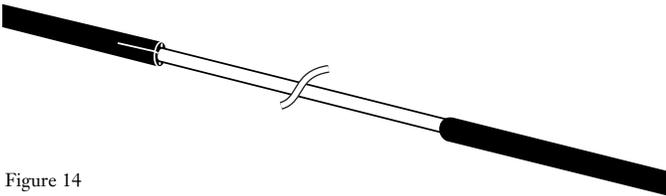

Figure 14
6.6 Pull the tube out of the slit jacket. Use scissors to cut away the jacket and the two dielectric strength members at both ends of the slit (Figure 14).